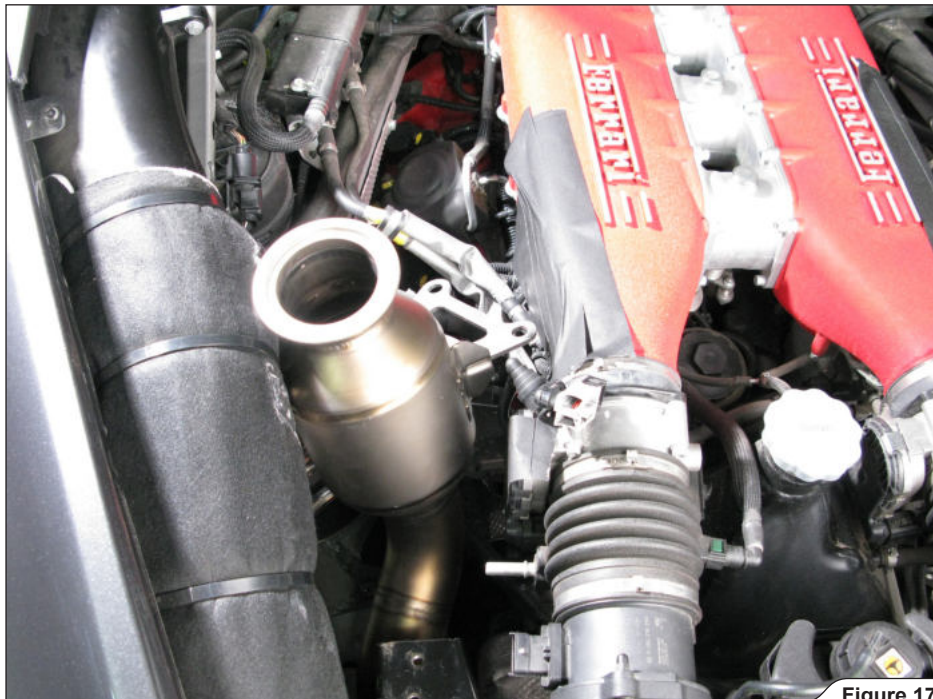

Figure 17
1. **For optional Link Pipes only:** carefully Insert the Akrapovič Link Pipes into the engine compartment, as shown (Figure 17).